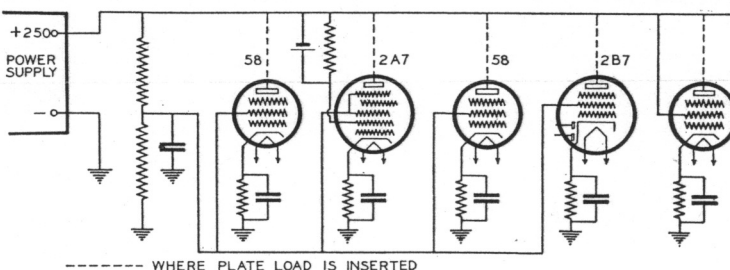
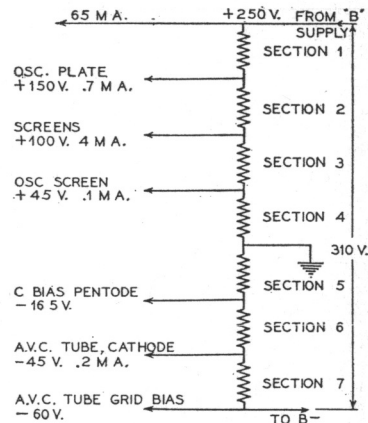
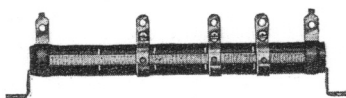

FIG. 1A
FIG. 2
FIG. 3
The tube manual will show that all tubes require the same screen voltage (100 volts) and so it would be possible to supply these screens from a voltage divider with a single tap as shown in Fig. 1A. This divider can also consist of two separate resistors of the right value. Lately, many of the small sets have no longer a vitreous enamelled resistor but include a divider made up from two or more carbon resistors. As long as the current to be supplied is not too heavy this method can be used to advantage. It is recommended that the power consumption for each section be calculated and the resistor be chosen accordingly.
several high gain stages so that it is very important to guard against any source of intercoupling between stages. Fig. 2 represents a voltage divider for use in an average receiver. Right here it is necessary to point out a common error. Supposing the power supply (after passing through the choke and perhaps the
Fig. 2 represents a voltage divider for use in an average receiver. Right here it is necessary to point out a common error. Supposing the power supply (after passing through the choke and perhaps the
The value of I here should be the highest current any section is required to carry. If the divider is to consist of several resistors the wattage for each section should be calculated separately and the actual current in that section should be used for the calculation. This sounds complicated but it isn't. As an example the voltage divider shown in Fig. 2 will be discussed.
Step 2 requires the determination of the bleeder current. The total of all currents drawn by tubes, as shown in Fig. 2, is 70 MA. Assuming that a transformer is used
The calculation of the correct resistance values and the power rating of voltage dividers involves nothing but the use of Ohm's Law and Kirchoff's Law ($\sum i = 0$). When a voltage divider as in Fig. 1A and Fig. 2 is to be used one can arrive at the proper values by experimentation or by calculation. For an experimenter or a designer of just one set or for the replacement of a divider which is no longer made, it is perhaps easiest to employ a so-called "adjustable voltage divider". In its most up-to-date form, this unit consists of a vitreous enamelled resistor having the enamel removed along a line running the entire length of the resistor and about a quarter inch wide so that sliding straps can make contact with the bare wire. This type is available in different lengths and with several adjustable sliders as shown in Fig. 3. The sliders can be adjusted until the voltages and currents are correct as determined by suitable measuring instruments. There remains to be determined the correct size to use.
A simple push-pull version of the "linear" oscillator is shown in figure 2. Here we have four rods and two tubes, with RF chokes in all filament leads. The tubes may again be triodes with the proper filament and plate voltages. Of course different values of grid leaks will be required; the values indicated are approximate and will serve as a starter.